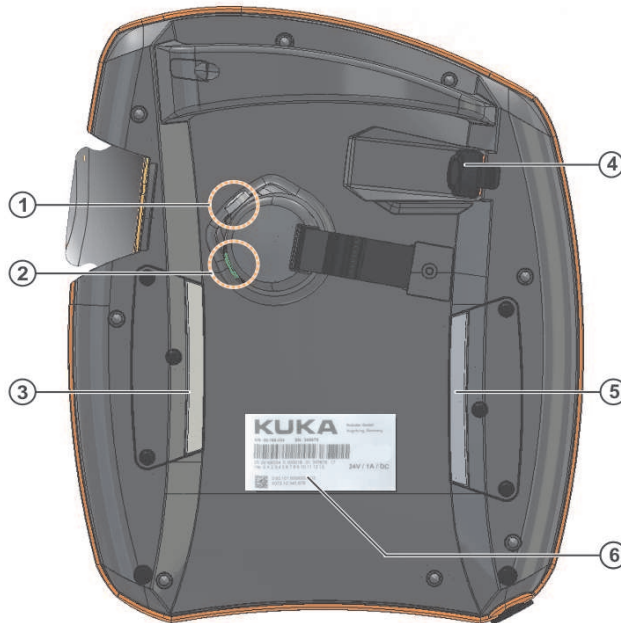
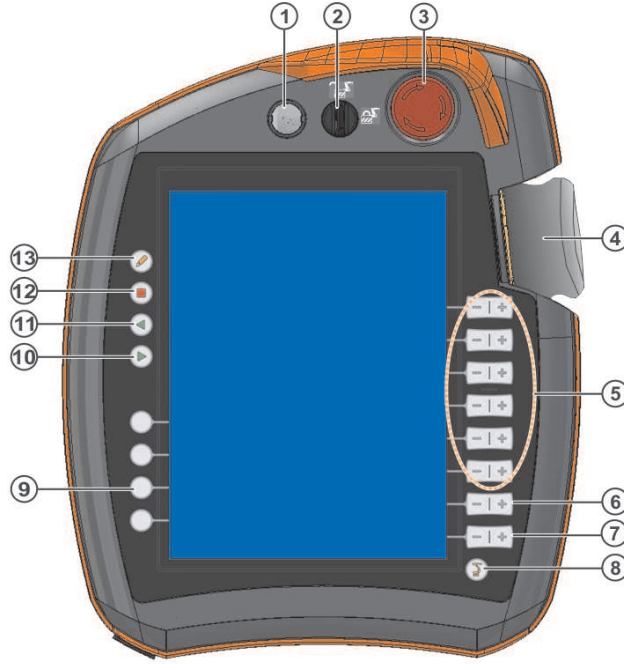

Figure 5: 3 and 5 are Enable buttons on the KUKA SmartPAD.
Figure 6: 10 is the Run button on the KUKA SmartPAD.
- To run the program, hold down half-way one of the enable buttons on the back of the KUKA SmartPAD. The enable buttons are labelled 3 and 5 in Figure 5. If you press too hard, an emergency stop will be activated. While holding down the enable button, press and hold the run button labelled 10 in Figure 6. Note that when running the line `RSI_ON` a warning will appear saying ‘Caution - sensor correction is activated’. Simply confirm this warning to continue.